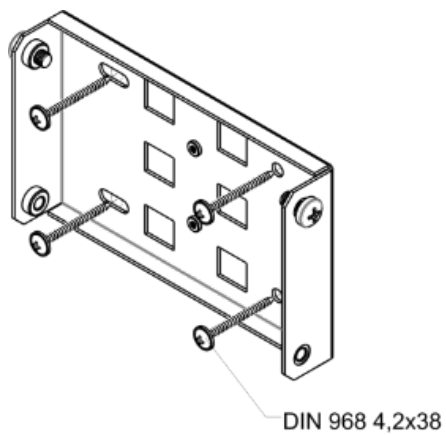
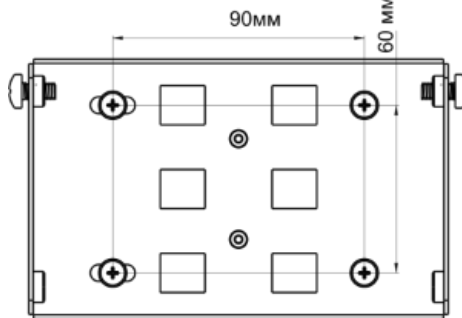

Figure 11 – Attaching bracket to the wall
Figure 12 – Distance between boltholes
- a) Figure 11 shows bracket allocation on the wall. Figure 12 shows distance between the boltholes.
- c) Install DIN7985 M6 screws in the top holes. Do not screw them fully. Leave at least 3 mm gap, see Figure 11.